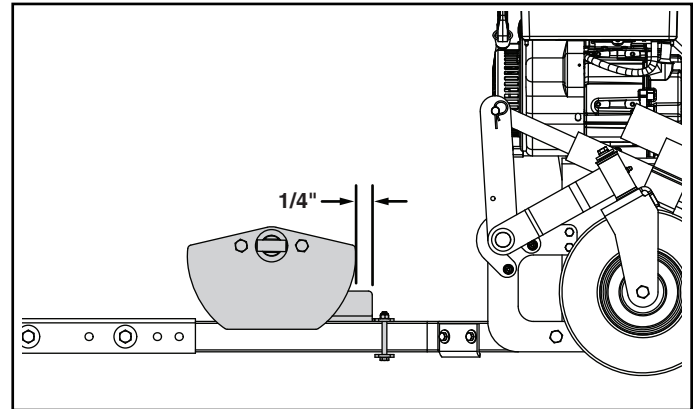

FIGURE 29
46. Slide the guide bracket along the mounting tubes until the front edge is a 1/4" in front of the front edge of the stabilizer brackets as shown in figure 29. **Tighten.**